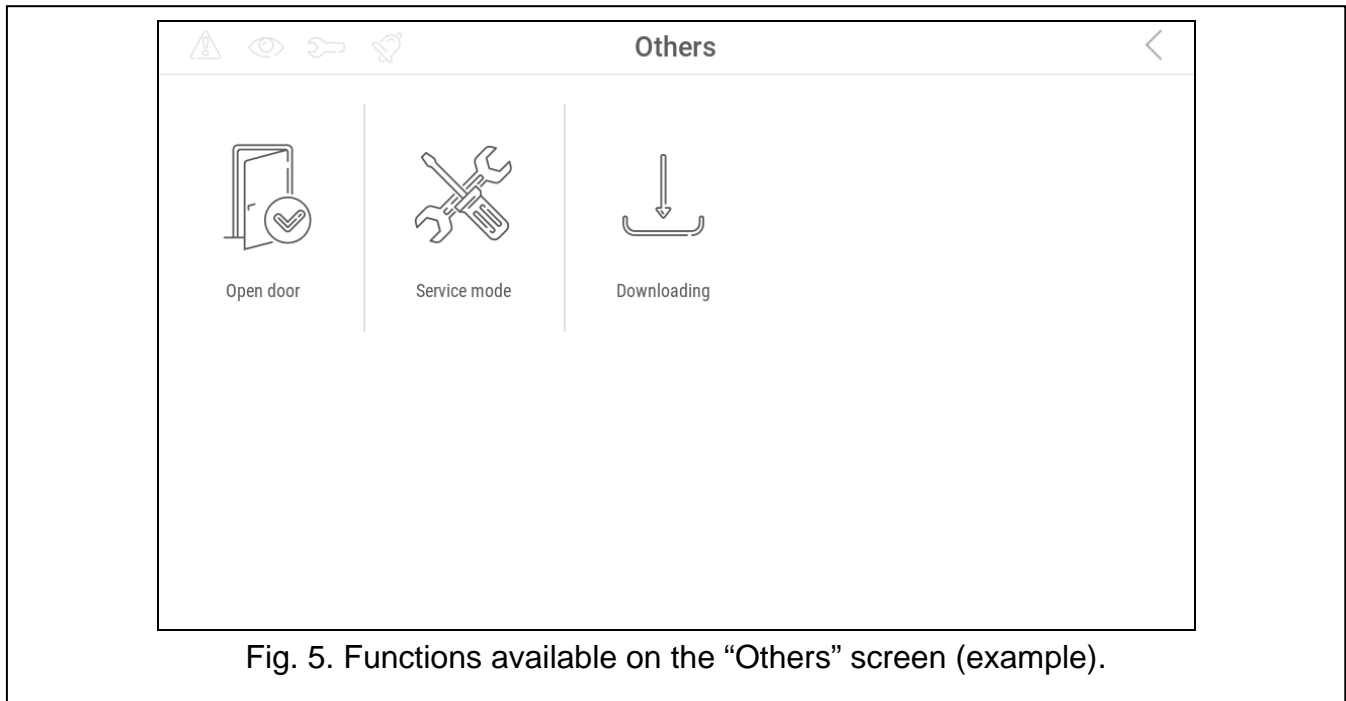

Fig. 5. Functions available on the “Others” screen (example).
4. Tap the "Others" function. A list of functions will be displayed (Fig. 5).